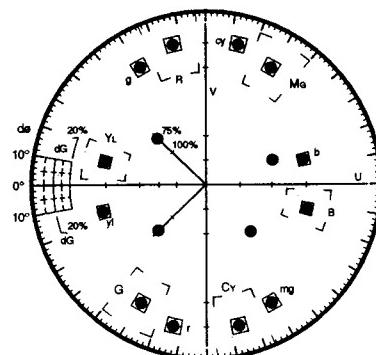

Fig. 5-1-12
- Adjust VR18 so that the Burst Phase becomes correct position of the Vectorscope as shown in Fig. 5-1-12.